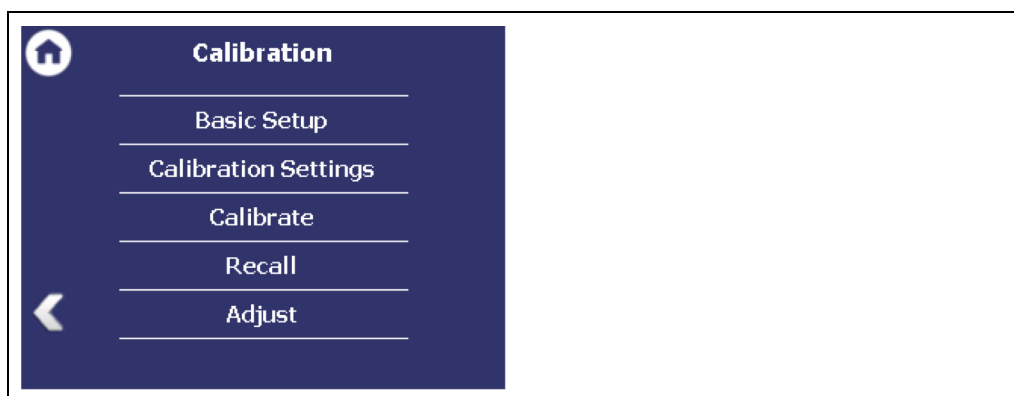

Fig. 61 Menu "Calibration"
1. To restart the Detector, click the button <Reboot> (Fig. 61, item 1).
- ▶ A window with a warning "Reboot" (Fig. 61, item 3) opens.
1. To reset the detector to the factory settings, click the button <Factory reset> (Fig. 61, item 2).
- ▶ A window with the warning Factory settings (Fig. 61, item 4) opens.